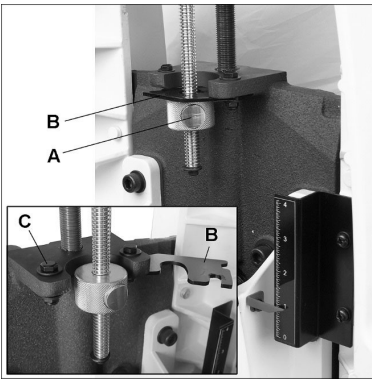

Figure 8-1
1. Rotate handle to position drum at final sanding depth according to scale. (Figure 8-1 shows 7/8-inch final depth as example).
2. Press button on stop nut to slide nut into general position, then rotate nut until it firmly contacts bottom of plate (B).